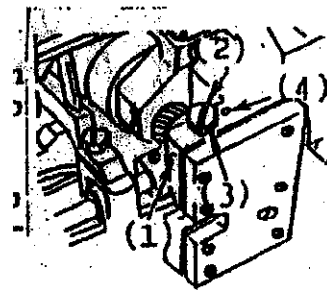

Fig.6
Loosen the screw (1), to increase the oil flow, align the screw to mark on line (2) on the nut (3). To stop the oil flow, turn the nut (3) far enough to make the reference line vertical. Refer to Fig. 6